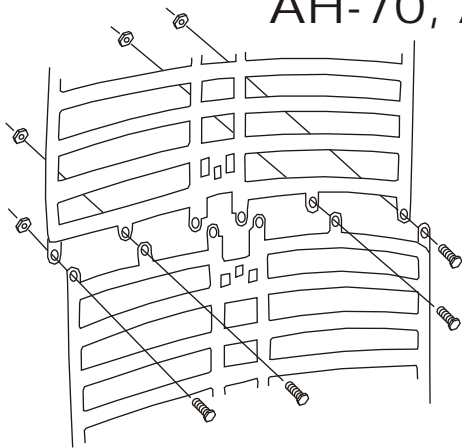

Figure 1
1. Assemble the two halves inserting the 4 #8-32 machine screws through the front. Secure with the keps nuts on the back. (Figure 1)